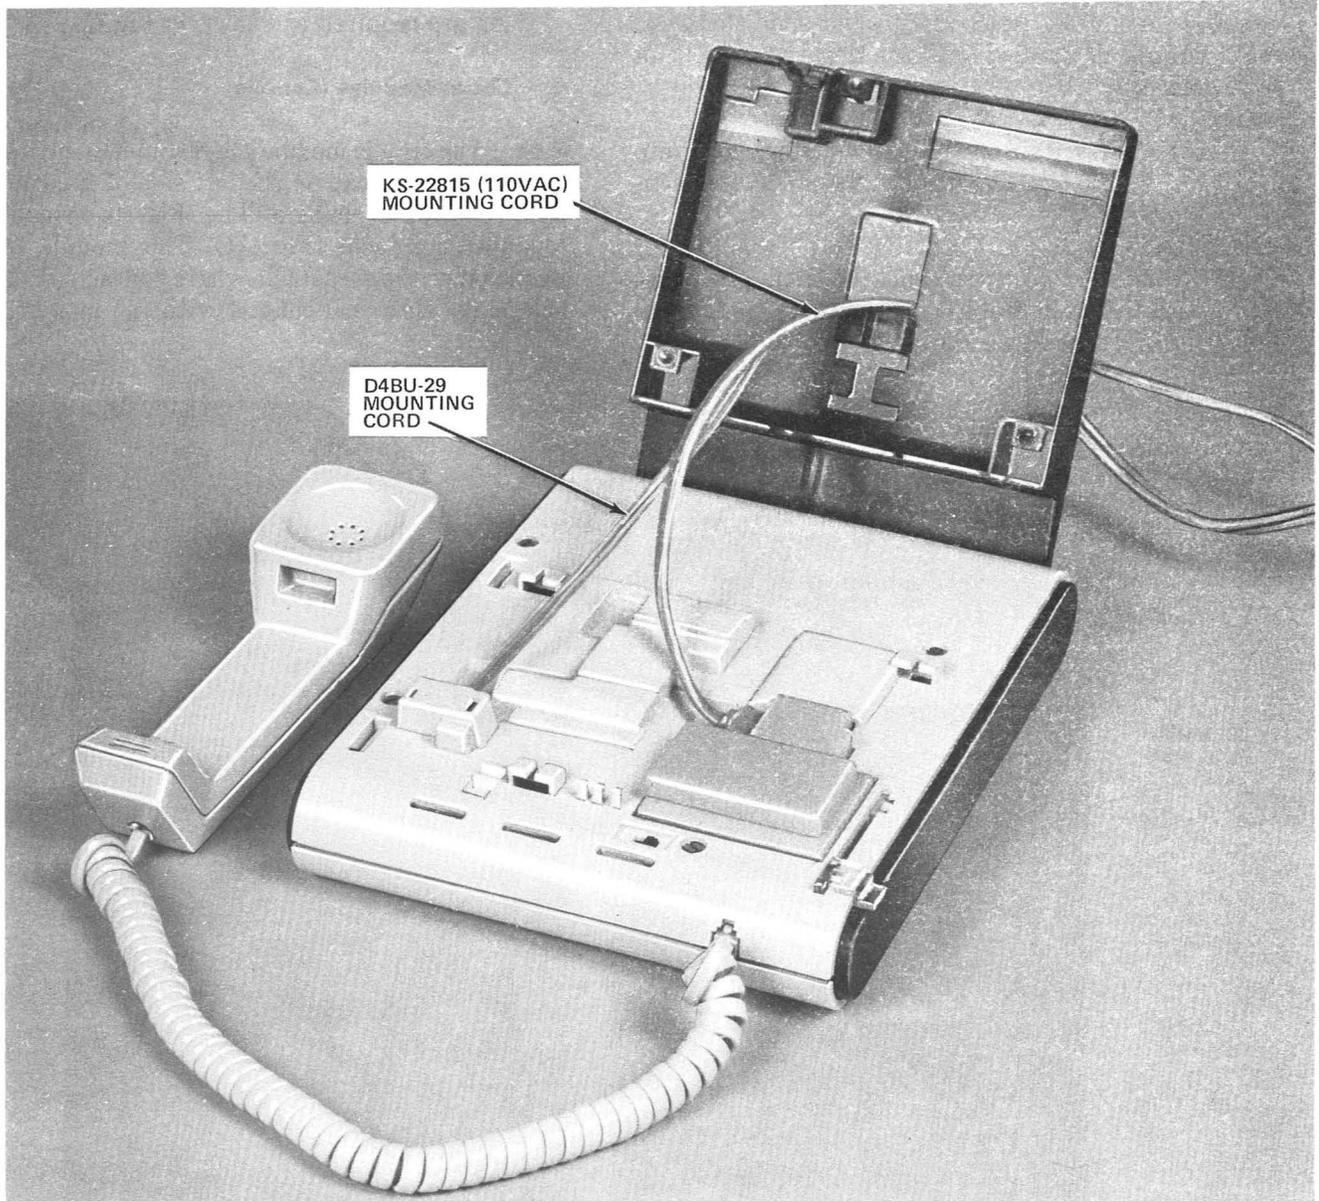

Fig. 8—Mounting Cord Connecting Arrangement (Desk-Type Mounting Base)
- (1) Position and connect the 14-foot D4BU-29 and 8-foot KS-22815 110 volt ac set cord (power cord) to the console as shown in Fig. 8.